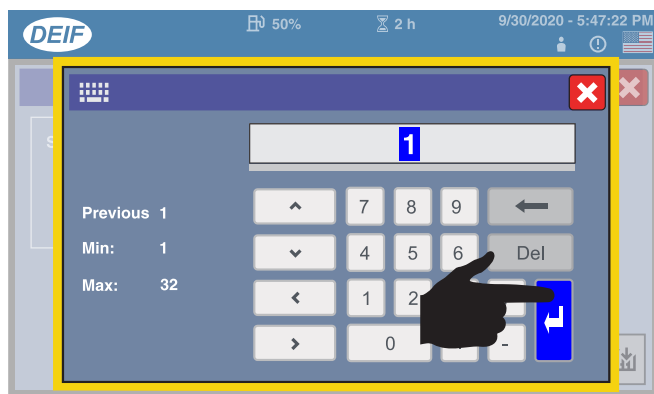

Figure 104. Value Keypad Screen (Internal Communication ID)
- **Method 2** — Select the numerical value (Figure 103) located just above the slider and verify that the **Value Keypad** screen (Figure 104) is displayed. Enter the desired value on the keypad, then press the **Enter key**.